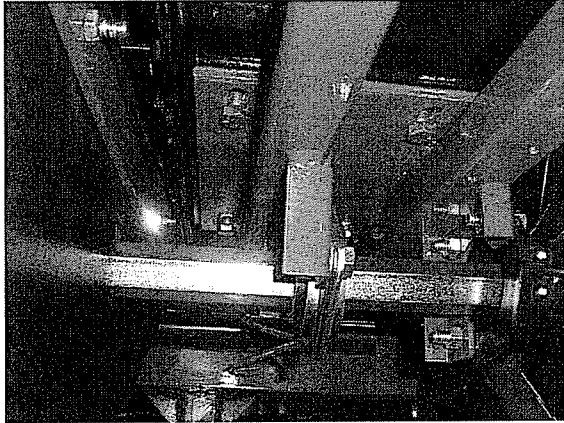

Fig 1 (Engine Mount Bolts)
2. Loosen, but do not remove, engine mounting bolts (Fig 1)